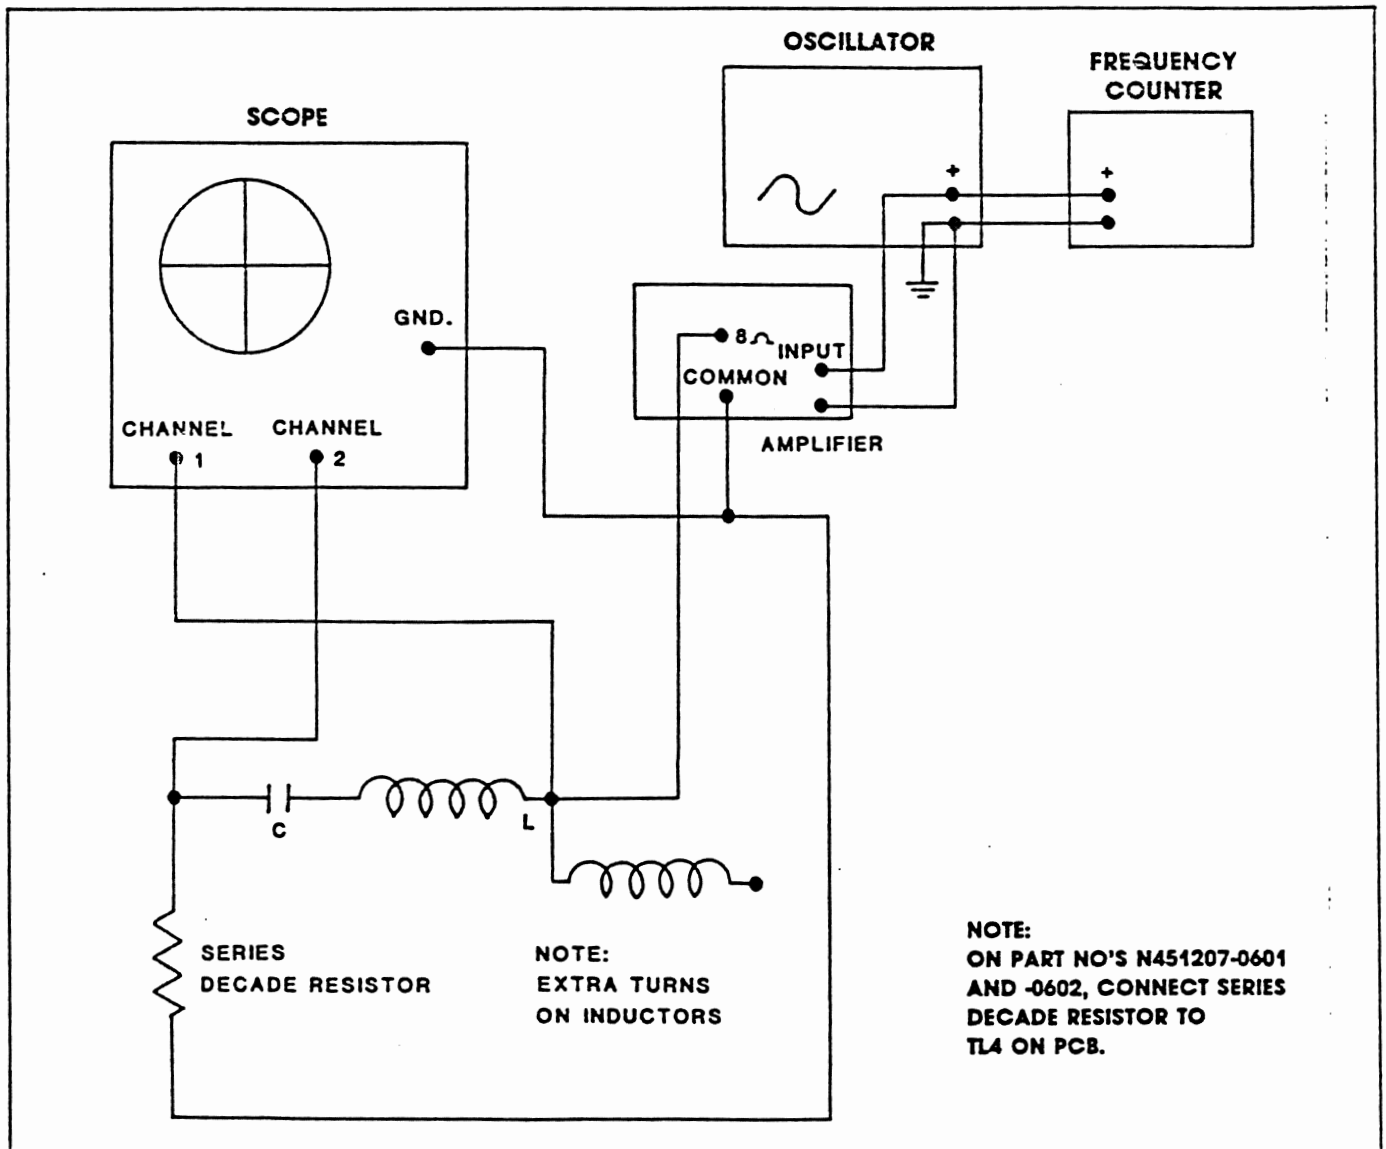

Figure 6. Tuned Circuits Test Set-up
3. To perform an operational test on a tuned circuit, electrically isolate the circuit from its surrounding circuitry by disconnecting the lead wire shown on Table 5 and connect the tuned circuit (inductor-capacitor combination) into the test circuit shown on Figure 6.